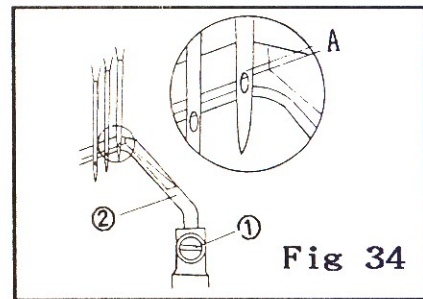

Fig 34
2. When the needle is in below the top of its lowest position, the line (A) of the needle guard is located 1/3 below the top of the right needle eye.(Fig. 34)
*To adjust, loosen the screw (1) then move the Rear Needle Guard upwards or downwards.